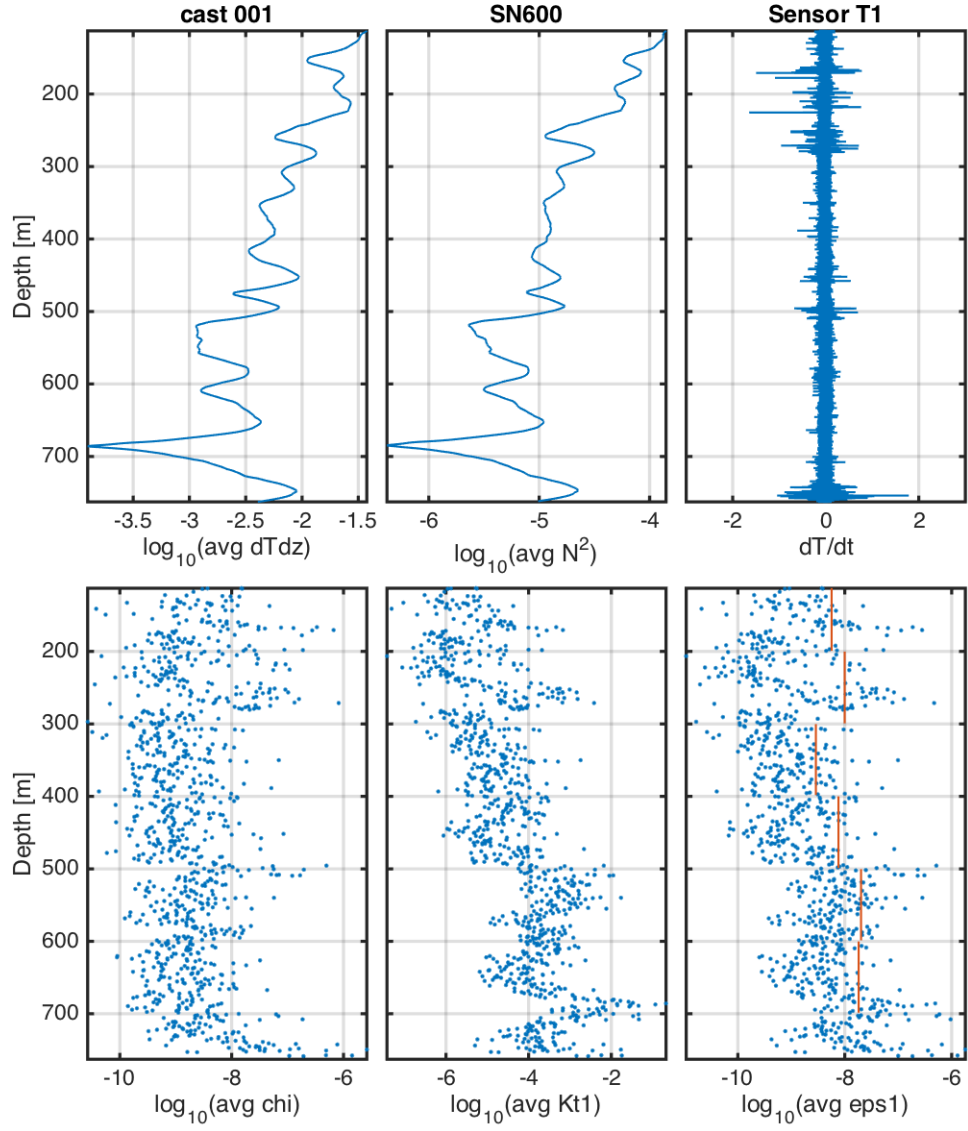

Figure 6: Results of chipod calculation for one cast. Red lines in lower panel are 100m? binned averages.
- cast_001_upcast_chi_SN600_T1_avg_chi_KT_dTdz (Figure 6)